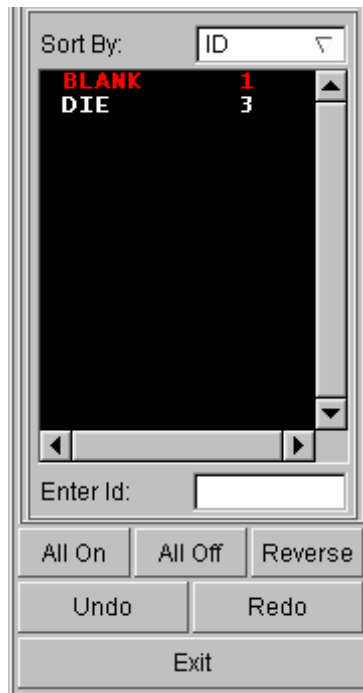

Figure 4.36 Turn parts on/off dialog box
3. From **Icon bar**, select  button to display the PART ON/OFF dialog box illustrated in Figure 4.36.